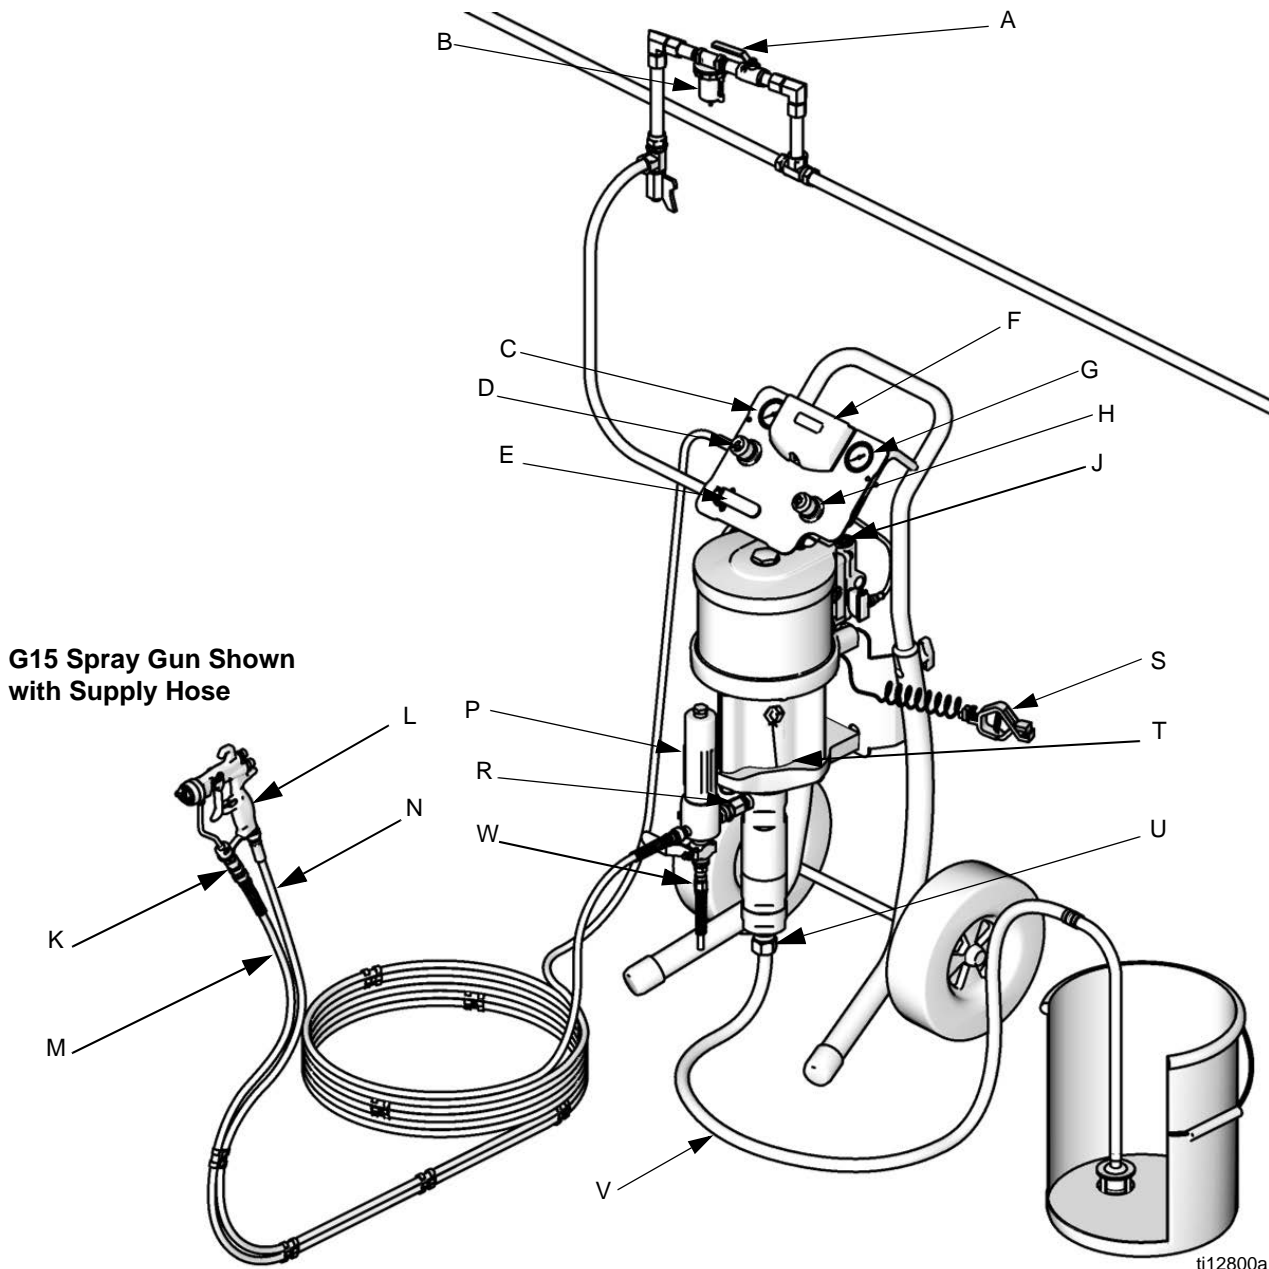

Fig. 1. Typical Installation (Your package may not include all items shown.)
FIG. 1 is only a guide for selecting and installing system components and accessories. Contact your Graco distributor for assistance in designing a system to suit your particular needs.
See FIG. 1. **Components vary by package ordered.** See tables on pages 7 to 15. Your package may include:
Install the following accessories in the order shown in FIG. 1, using adapters as necessary.
1. See FIG. 1. Attach end of blue fluid hose (M) to pump outlet (R) or filter (P) outlet.
2. Attach one end of the air hose (N) to gun air regulator (D).
3. Attach remaining end of the air hose (N) to air inlet at base of gun (L).
4. Attach gun swivel (K) to gun fluid inlet.
5. Attach other end of blue fluid hose (M) to gun swivel (K).
2. See FIG. 1. Turn off the bleed-type master air valve (D).
1. See FIG. 1. Lock gun trigger. Remove tip guard and spray tip from gun (L). Refer to gun manual.
2. Close gun air regulator (D) and pump air regulator (H) by turning knobs counterclockwise reducing pressure to zero. Close bleed-type air valve (E). Also verify that all drain valves are closed.
3. Connect air line to bleed type air valve (D).
6. Hold metal part of gun (L) firmly to side of grounded metal pail, unlock trigger, and hold trigger open.
8. Open bleed-type air valve (E). Slowly turn clockwise pump air regulator (H) increasing pressure until pump starts.